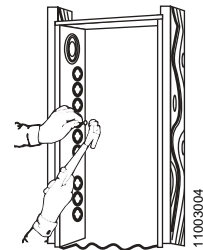

Figure 4: Flush Mounting
- Remove the small mounting knockouts on the side of the box. See Figure 4.